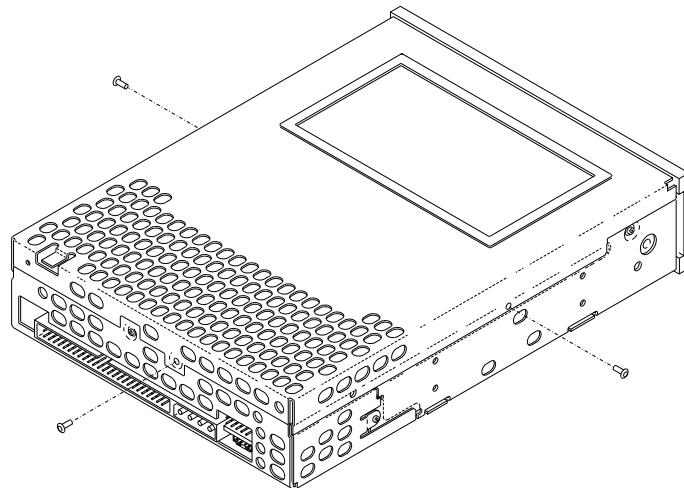

Figure 9 Replacing the top cover
7. Replace the three screws that attach the top cover to the tape drive (see Figure 9). Tighten the screws to 1.2 inch-pounds of torque.